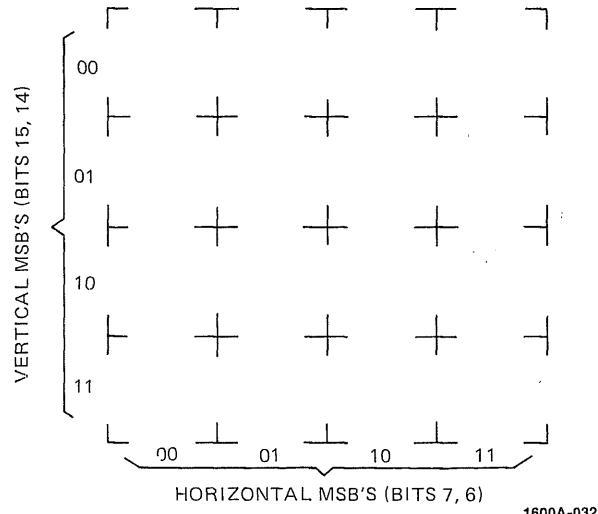

Figure 3-3. Expanded Map Sector Selection
**3-17. CURSOR.** In map mode, the TRIGGER WORD switches control the location of a cursor (a zero displayed on the CRT screen). In NORM, the cursor is used to select one of 16 sectors to be expanded in EXP. TRIGGER WORD switches 15 and 14 control vertical sector selection; switches 7 and 6 control horizontal sector selection (see figure 3-3). The sector containing the cursor is expanded in EXP. In EXP, the cursor can be used to select a specific state to be the trigger word in a table display. The cursor is positioned about a single dot using the six least-significant vertical and the six least-significant horizontal TRIGGER WORD switches. The setting on the switches give the address or state of the selected dot. Selecting one of the table modes where table A is displayed returns the 1600A to a table display with the selected logic state becoming the trigger word.